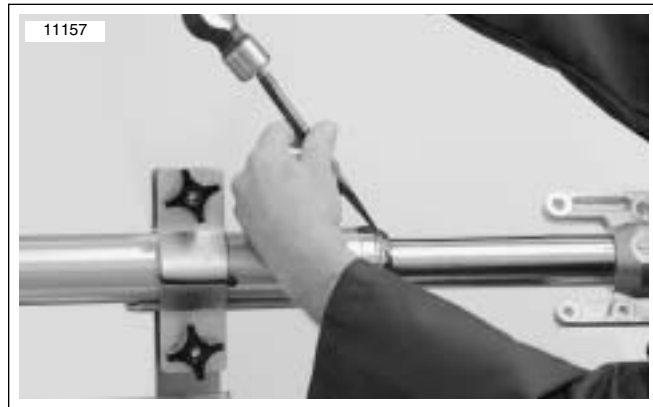

Figure 2-127. Remove Chrome Dust Cover
- See Figure 2-127. Using FORK TUBE HOLDER (HD-41177), mount fork assembly in vise.